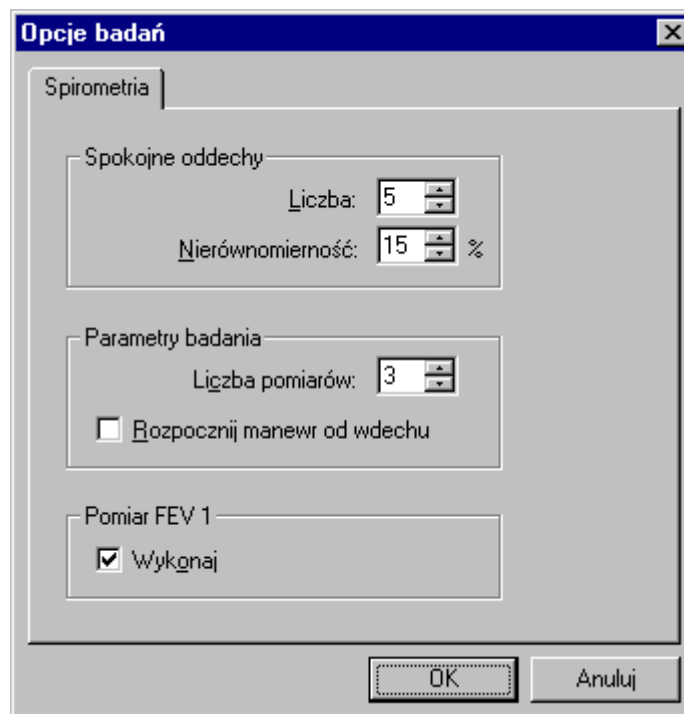

Fig. 5. Dialogue box *Test options* – *Spirometry*.
Test options are accessible on the fold *Spirometry* (\Rightarrow Fig.5) of the dialogue box *Test options* (\Rightarrow Chapt.3, item 2).